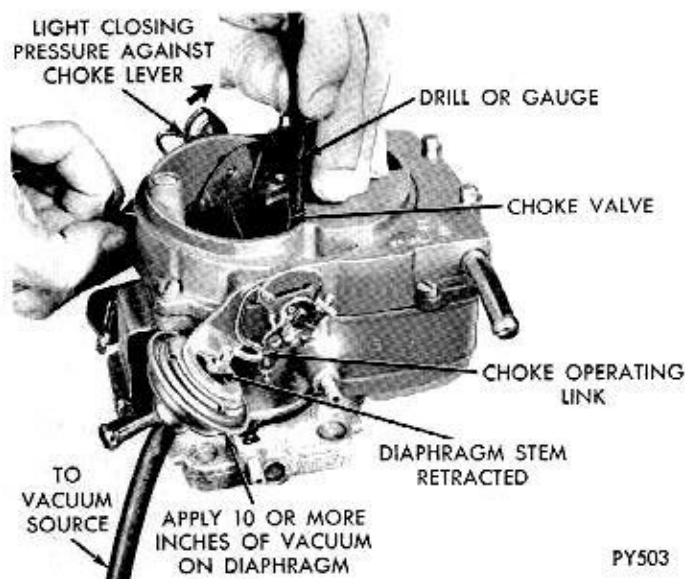

Fig. 13—Checking Choke Vacuum Kick Setting (Wide Open Kick)
(1) If adjustment is to be made with engine running, disconnect fast idle linkage to allow choke to close to the kick position with engine at curb idle. If an auxiliary vacuum source is to be used, open throttle valves (engine not running) and move choke to closed position. Release throttle first, then release choke.
(2) When using an auxiliary vacuum source, disconnect vacuum hose from carburetor and connect it to hose from vacuum supply with a small length of tube to act as a fitting. Removal of hose from diaphragm may require forces which damage the system. Apply a vacuum of 10 or more inches of mercury.
(3) Insert specified drill (refer to Specifications) between choke valve and wall of air horn (Fig. 13). Apply sufficient closing pressure on lever to which choke